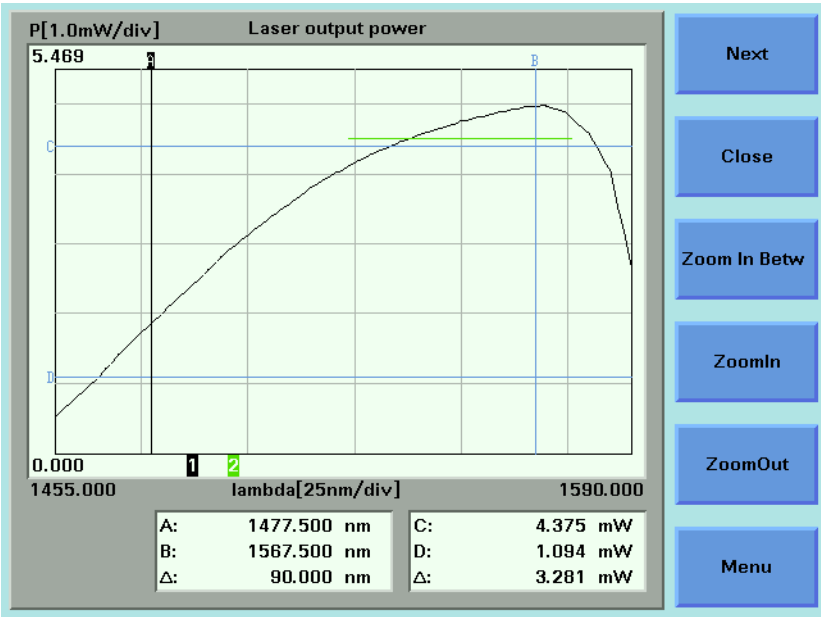

Figure 187 The Pmax Curve Screen
- 2 Move to <Pmax curve> and press *Enter*. The Pmax Curve Screen, as shown in Figure 187 on page -302, appears.